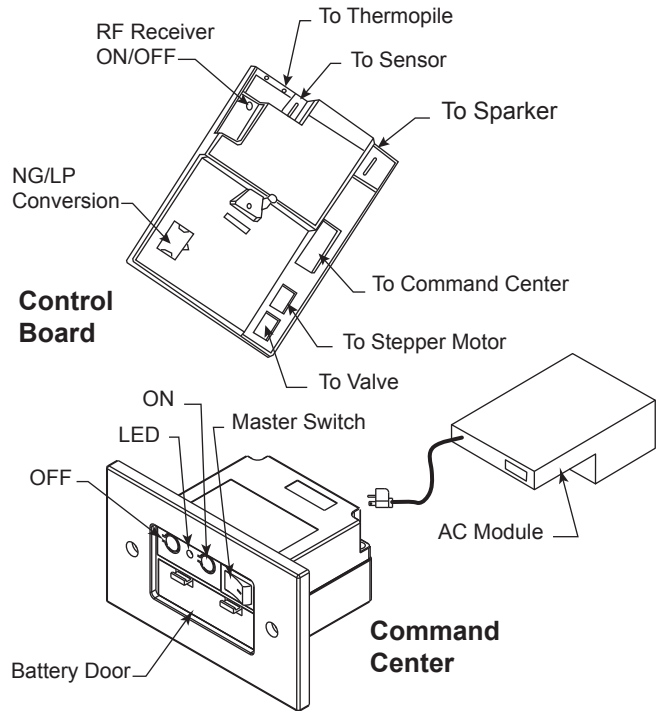

Figure 35 - Signature Command System Components
1. The RF receiver button located on the Control Board must be in the on position before the learn function can begin. Use paper clip to depress button. One beep for RF receiver ON or two beeps for RF receiver OFF will be given as confirmation. Refer to *Figure 35* for location.